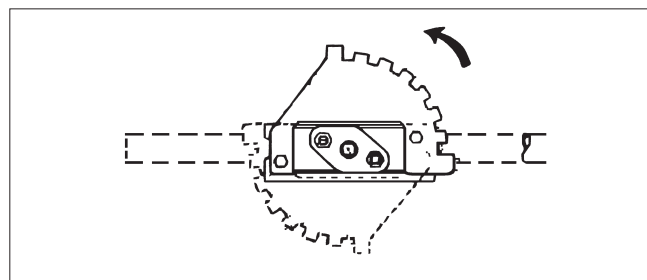

Figure 11.
2. 2-1/2" thru 6" (DN 65 thru 150) Valves - To ensure proper handle/shaft engagement, the handle must be mounted on the shaft such that it rests on the bottom of the shaft blade (See **Figure 11**).